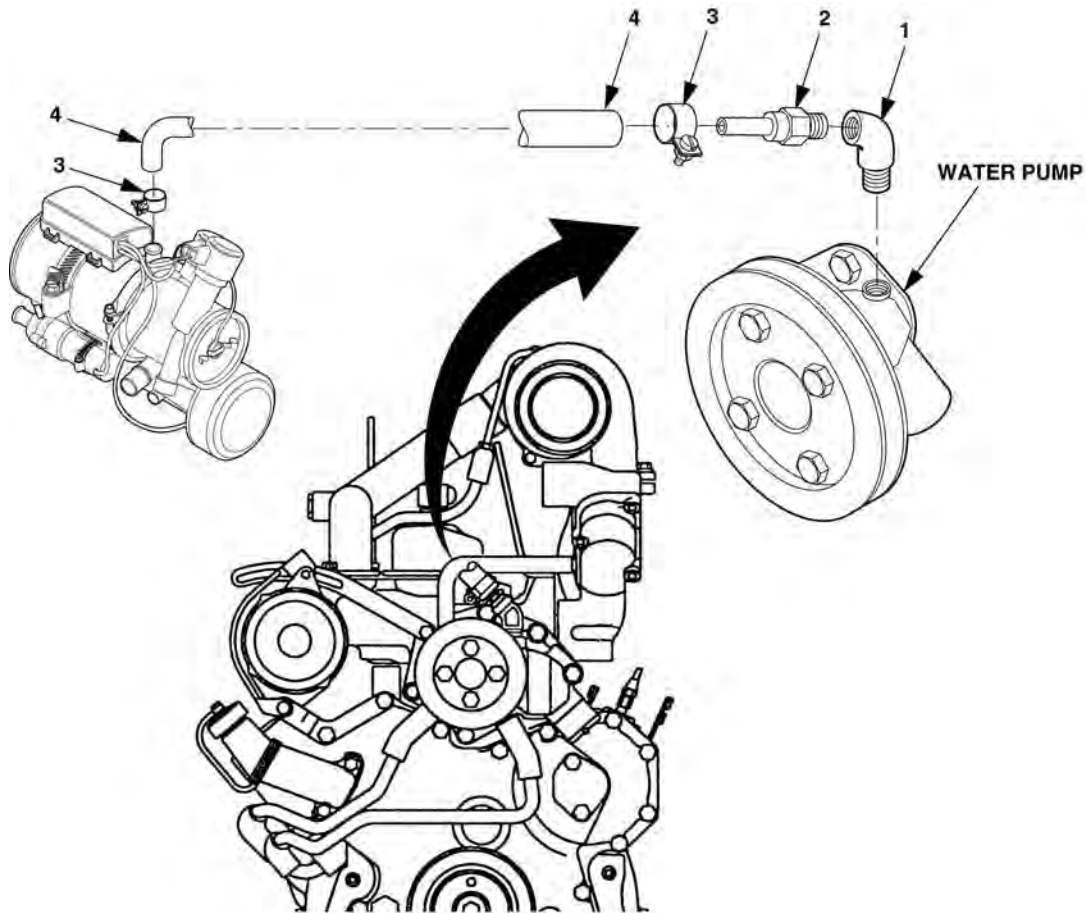

Figure 4-41. Coolant Outlet Hose Removal
10. Remove elbow °90 (1), Figure 4-41, standoff (2), clamps (3), and coolant hose (4) from water pump and heater assembly. Replace new plug in water pump.